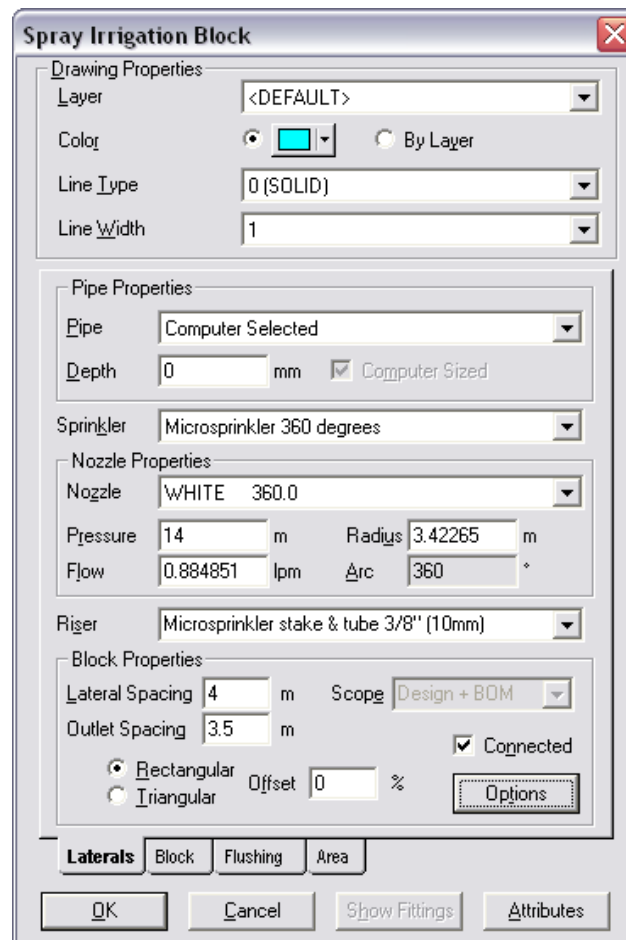

Figure SM 4
- Set the outlet spacing type to "Rectangular" with an "Offset" of **0%**. The dialog should look like Figure SM 4.